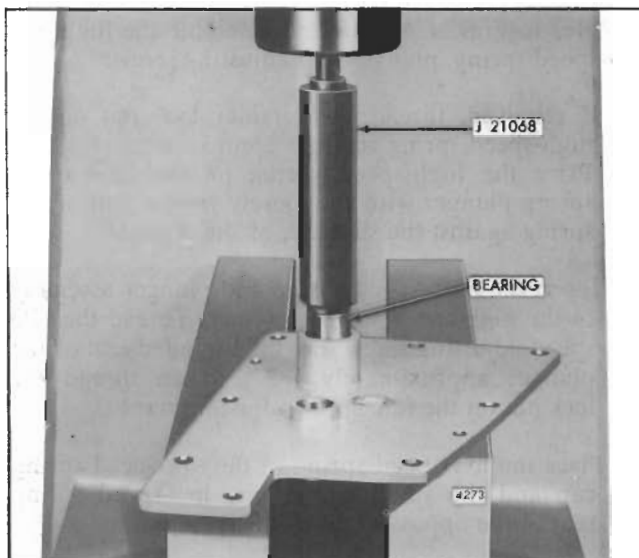

Fig. 19 - Installing Bearings in Governor Cover
- b. Place the correct end of the bearing installer J 21068 in the bearing and under the ram of the press as shown in Fig. 19. Then press the bearing into the bore until the stop on the installer contacts the cover boss.